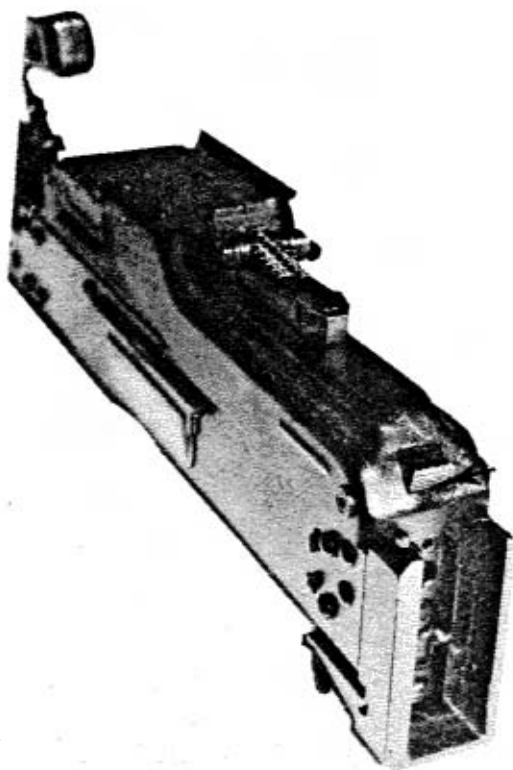
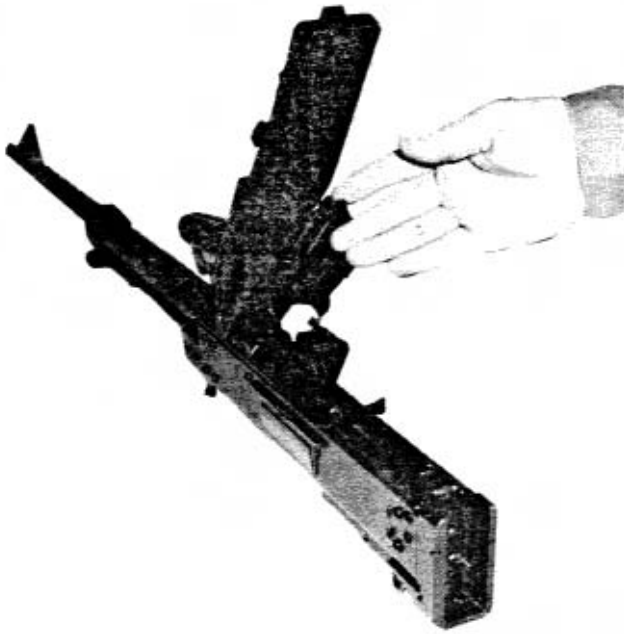

FIG. A-2. RECEIVER COVER LATCH
FIG. A-4. RAISED FEED TRAY
- b. Ensure that the weapon is clear. Take the weapon by the electric trigger with the left hand. Depress the latch with the right thumb and open the receiver cover (Figs. A-2 and A-3). Raise the feed tray base and place the safety on "FIRE" (Fig. A-4).